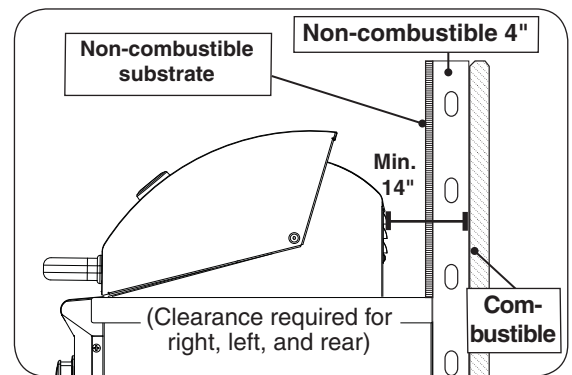

Fig. 10-3 Clearance 'B' Diagram
B. Clearance between grill and a protected combustible wall (i.e. a non-combustible wall in front of a combustible wall to serve as a barrier. This can be accomplished by brick, or a metal stud finished with non-combustible substrate, see Fig. 10-3)